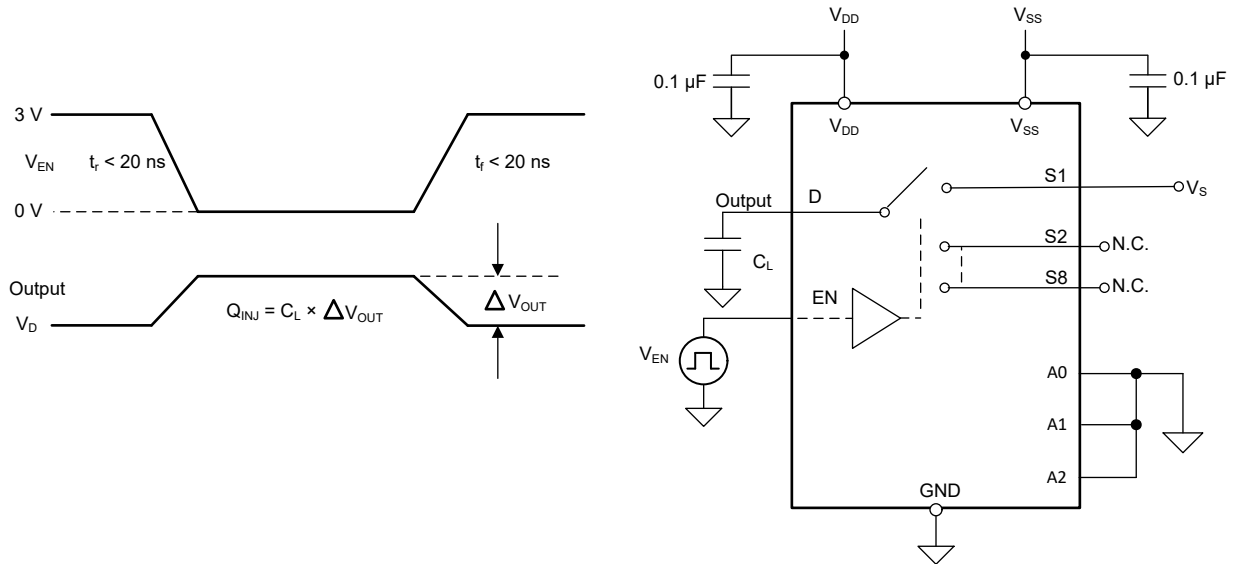

图 8-9. Charge-Injection Measurement Setup
The TMUX6208 and TMUX6209 have a transmission-gate topology. Any mismatch in capacitance between the NMOS and PMOS transistors results in a charge injected into the drain or source during the falling or rising edge of the gate signal. The amount of charge injected into the source or drain of the device is known as charge injection, and is denoted by the symbol Q_{INJ} . 图 8-9 shows the setup used to measure charge injection from source (Sx) to drain (D).